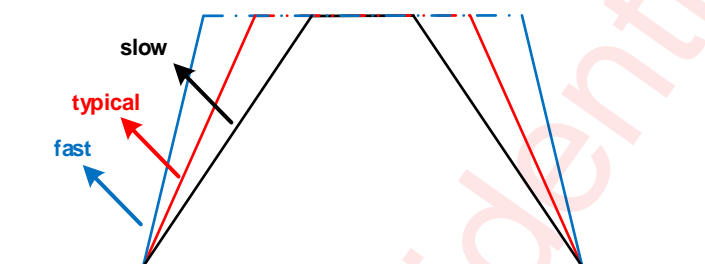

Figure 10. EMI Reduction Operation
**Figure 10** shows the EMI programmable steps, and the Programmable Slew Rate Control operates at the Boost Control2 Register 0x05 Bits[5:3].